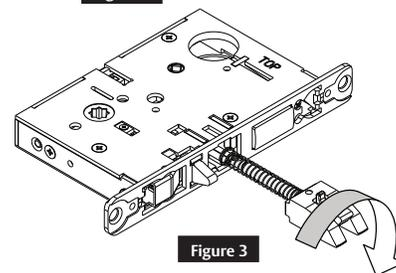

Figure 3
3. Pull latch out of lock body and turn latch over. (Figure 3)